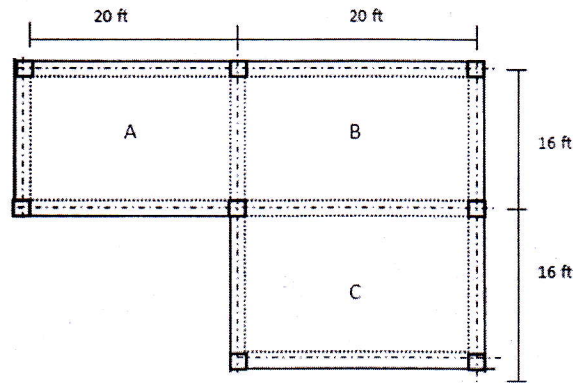

Fig: 1
- [1] Use Moment Distribution Method to draw the SFD and BMD of the frame shown in Fig.1. Given, $EI = 30 \times 10^6 \text{ k-in}^2$.
1. An L shaped residential building is to be constructed, whose floor plan is shown in the **Fig:1**. Beams are $12'' \times 18''$, Columns are $12'' \times 12''$). Floor loads also include working FF = 30 psf, RW = 55 psf. $f_c' = 4$ ksi, $f_y = 60$ ksi. Design the slab B and show the reinforcement in a neat sketch.